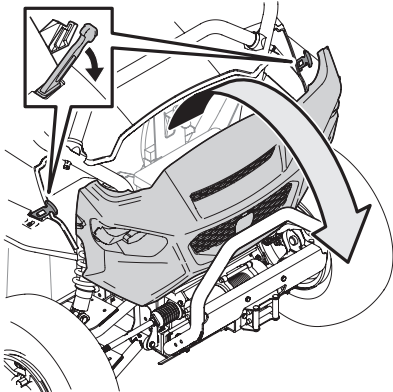

Figure 4-9
- Remove hood latches and lower the hood. See Figure 4-9.